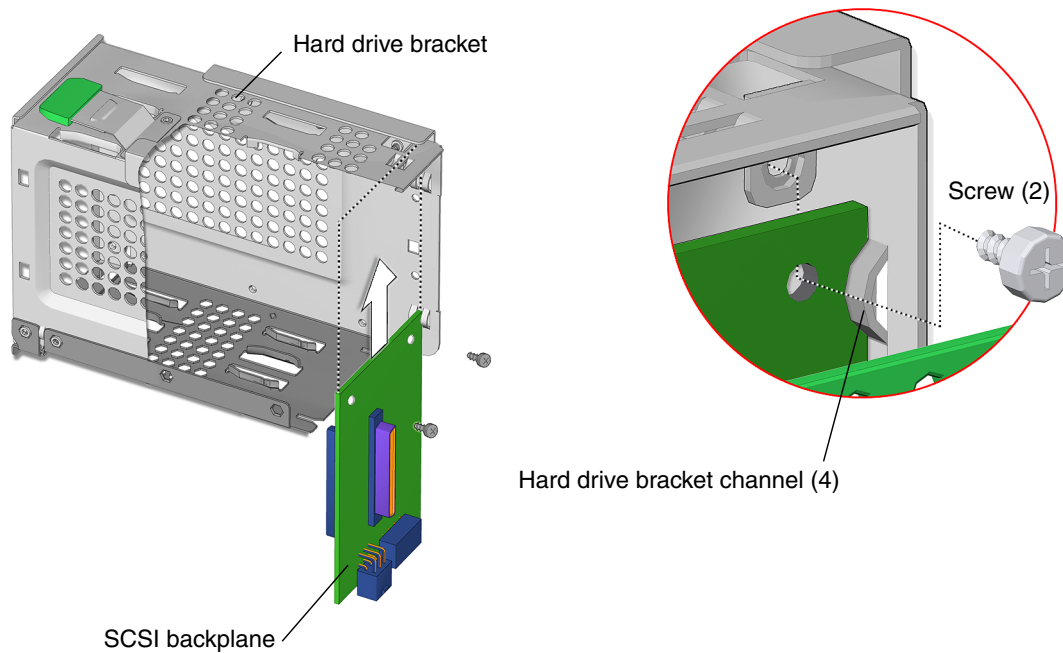

FIGURE 13-28 Aligning the SCSI Backplane to Hard Drive Bracket
11. **Slide the SCSI backplane out of the hard drive bracket and set it aside** (FIGURE 13-28).
4. **Slide the SCSI backplane into the hard drive bracket channels** (FIGURE 13-28).
5. Fasten the SCSI backplane to the hard drive bracket (FIGURE 13-28).